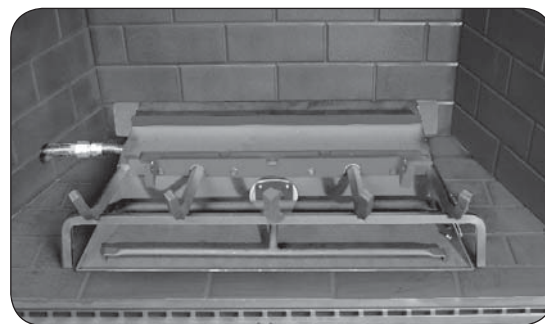

Fig. 8-3 Orientation
4. Place the burner system in the fireplace. Center the burner from left to right in the fireplace. (Reference Fig. 8-3 for orientation.)